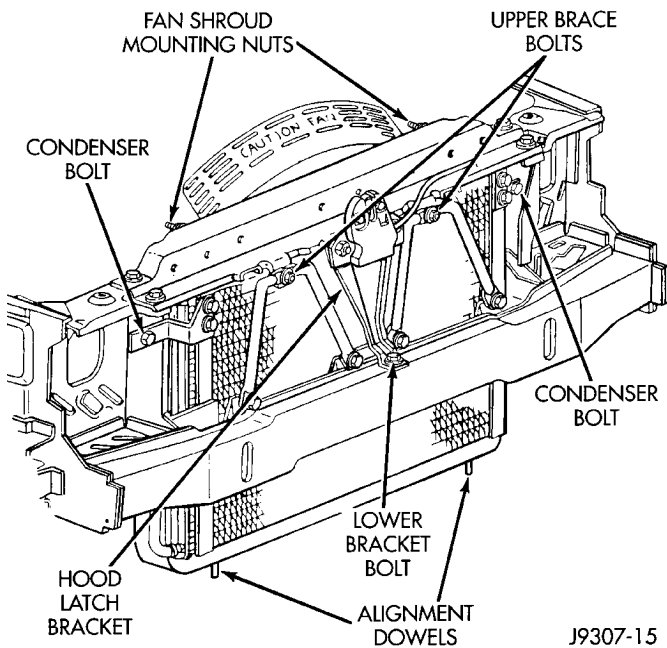

Fig. 31 Fan Shroud Nuts
(5) Remove two fan shroud-to-radiator nuts (Fig. 31). Do not attempt to remove fan shroud at this time.
- (11) Position fan shroud and fan blade/viscous fan drive assembly to vehicle as a complete unit.
- (12) Be sure the upper and lower portions of the fan shroud are firmly connected. All air must flow through the radiator.
- (13) Install two fan shroud-to-radiator nuts (Fig. 31).
- (14) Be sure of at least 25 mm (1.0 inches) between tips of fan blades and fan shroud.
- (15) Install fan blade/viscous fan drive assembly to water pump shaft.
- (16) Fill cooling system. Refer to Refilling the Cooling System in this group.
- (17) Connect negative battery cable.
- (18) Start and warm the engine. Check for leaks.